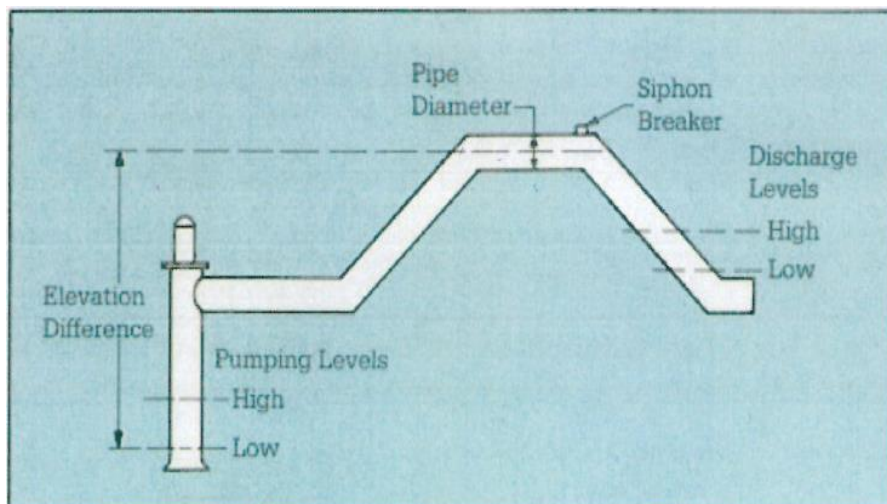

Figure 1
- the volume (GPM) or velocity (CM) of flow
- the elevation difference between lowest water and highest pipe centerline (see figure 1).